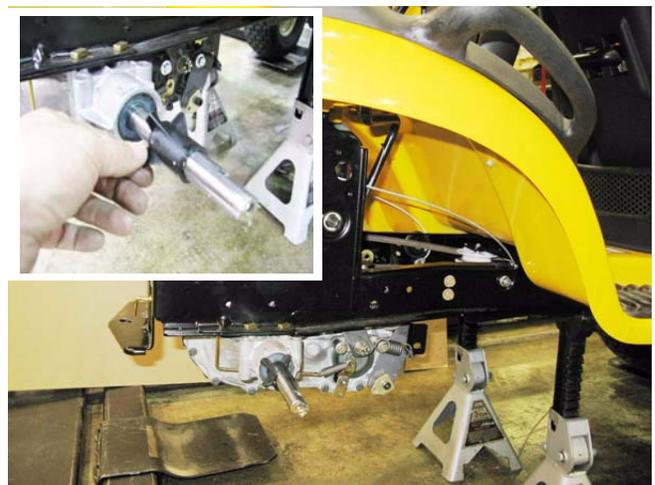

Figure 5.74
9. Remove the rear wheels. If the tractor has Double-D axles, remove the wheel spacers too. See Figure 5.74.